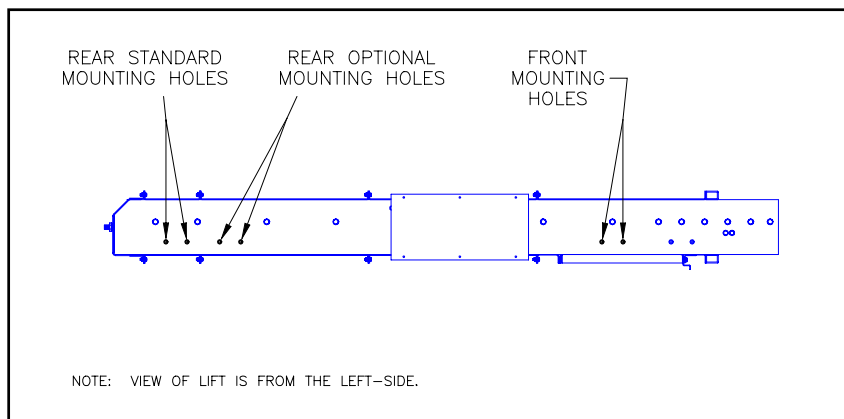

FIGURE 2-1: LIFT (LEFT-SIDE) MOUNTING HOLES
- a. Refer to Figure 2-1. Mechanical support of the lift will be provided at four (two on each side) attachment points. Each attachment point consists of two 5/16-18 tapped bolt inserts.